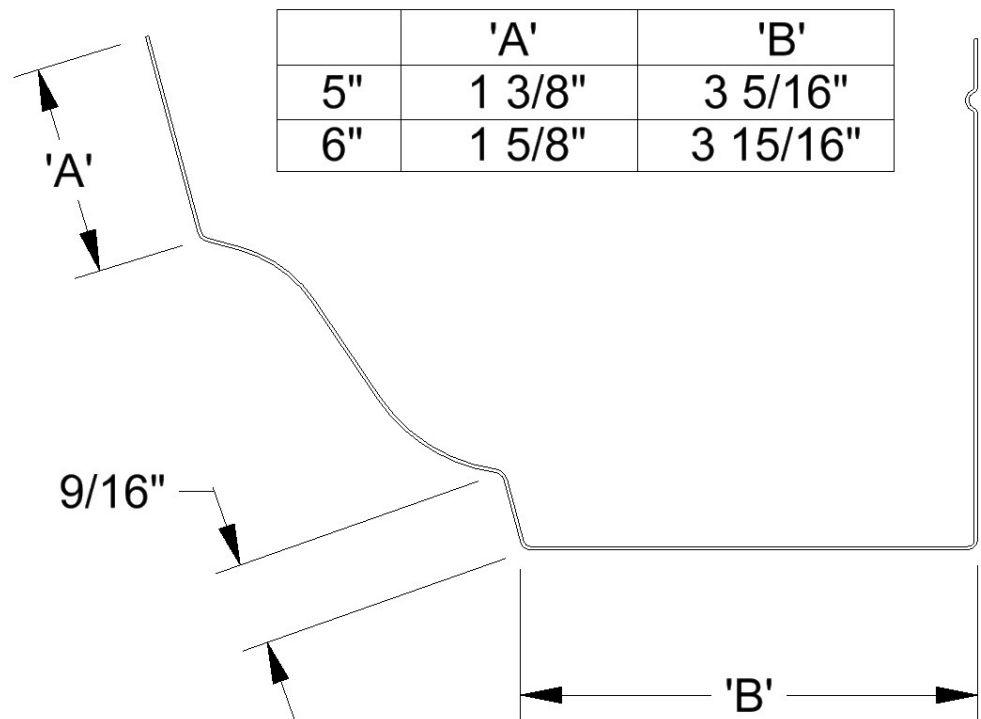

Figure 65: Gutter Profile Between Face and Box Roller Assemblies
- While viewing the gutter between the face rollers and the box, the dimension between point “A” & “D” is 1 3/8” for the 5” gutter and 1 5/8 for the 6” gutter as shown in Figure 65